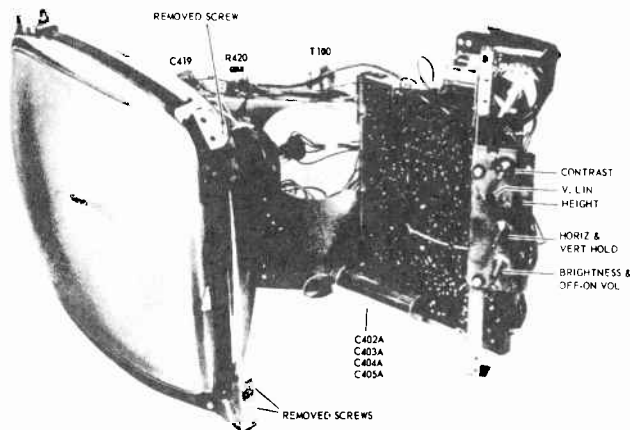

Figure 2 - PC Board Accessibility.
2. Remove the 3 screws shown in Figure 2.